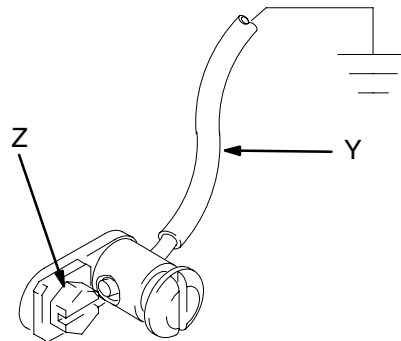

Fig. 1
- *Pump:* Use a ground wire and clamp as shown in Fig. 1. Remove the ground screw (Z) and insert through the eye of the ring terminal at end of ground wire (Y). Fasten the screw back onto the pump and tighten securely. Connect the other end of the wire to a true earth ground. *To order a ground wire and clamp, order Part No. 222011.*